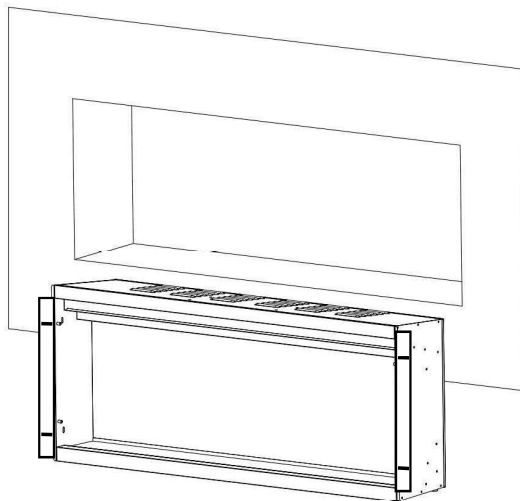
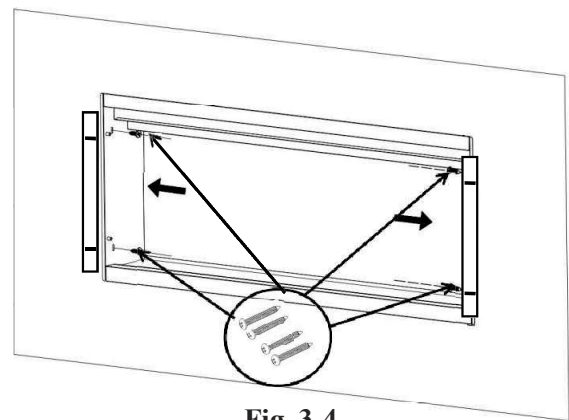

Fig. 3-3
Fig. 3-4
- D. Insert the fireplace into the rough-in frame and then secure it by installing four (4) wood screws (A) through the holes (Fig. 3-3, Fig 3-4).